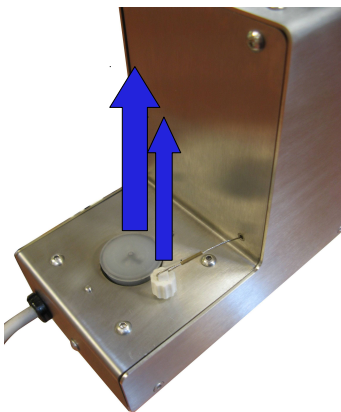

Fig. 12: Remove air pin and cap
- Remove the air pin from the ink tray (Fig. 12). This pin prevents leaks from the reservoir during shipment. Also remove the cap from the reservoir.